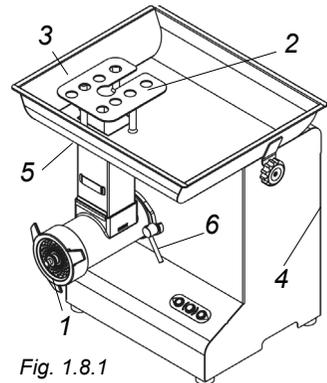

Fig. 1.8.1
2 Hand guard. The hopper has the protection "2" Fig.1.8.1 in compliance with the circular from the Ministry of Work and Social Security n° 66 dated 05/09/79.
3. Make sure that it is in the correct position, with the milled rear end of the worm perfectly slotted into the drive pin, then lock it with the locking nuts (ref. 6, see Fig. 1.8.1).